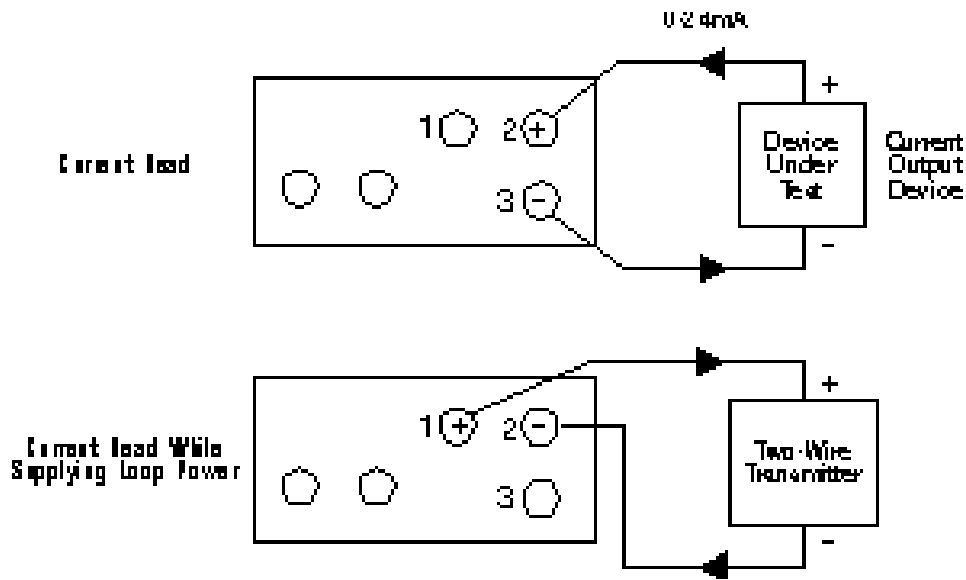

Figure 1
3. Electrical connections for milliamps are shown in figure 1.